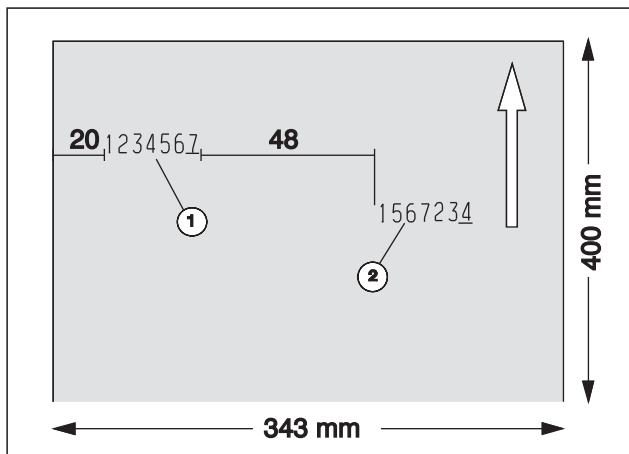
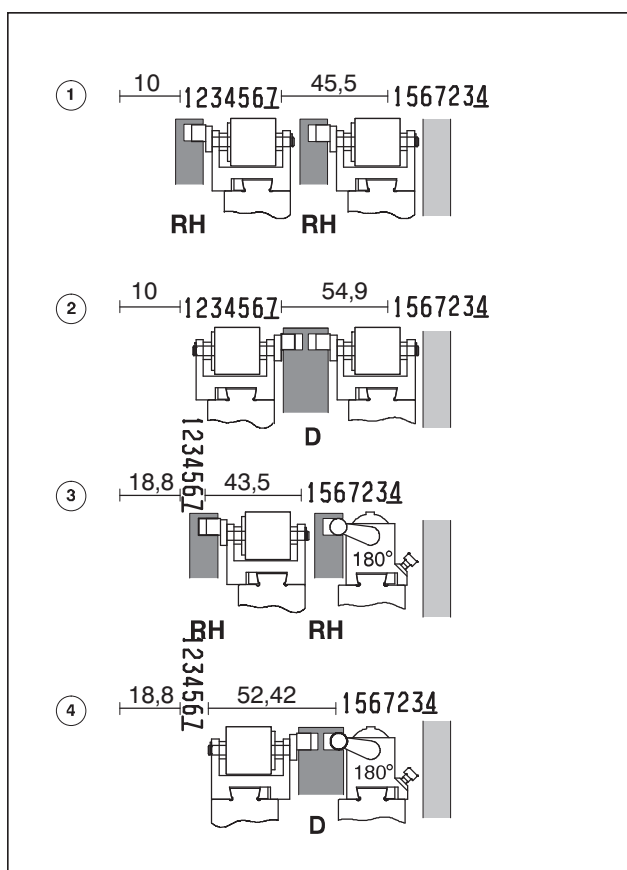

Fig. 71 Positioning foil, example of use
Fig. 72 Positioning foil, usage
A job is to be printed with the numbers as shown in figure 71.
The arrow in figure 71 points to the front edge of the sheet.
2. The digit at the top left (Fig. 71/1) has a margin of 20 mm to the edge of the sheet. The lateral distance to the digit, positioned diagonally beneath (Fig. 71/2) is 48 mm.
Fig. 72 shows the four possibilities with which the margin of 20 mm can be maintained. The second number (Fig. 71/2) can only be printed using a straight numbering box.
As this number lying diagonally beneath has a lateral offset of 48 mm, only the upper option (Fig. 72/1) comes into question.